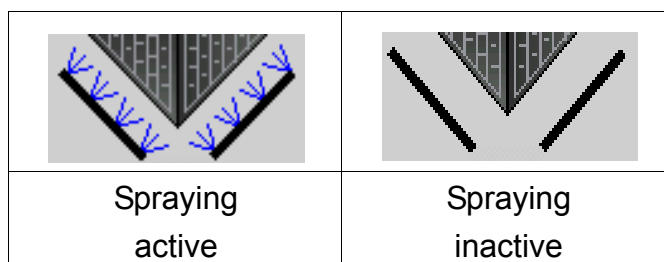

Figure 4-13: Spraying
- The spraying status is indicated below the filter wall (figure 4-13).